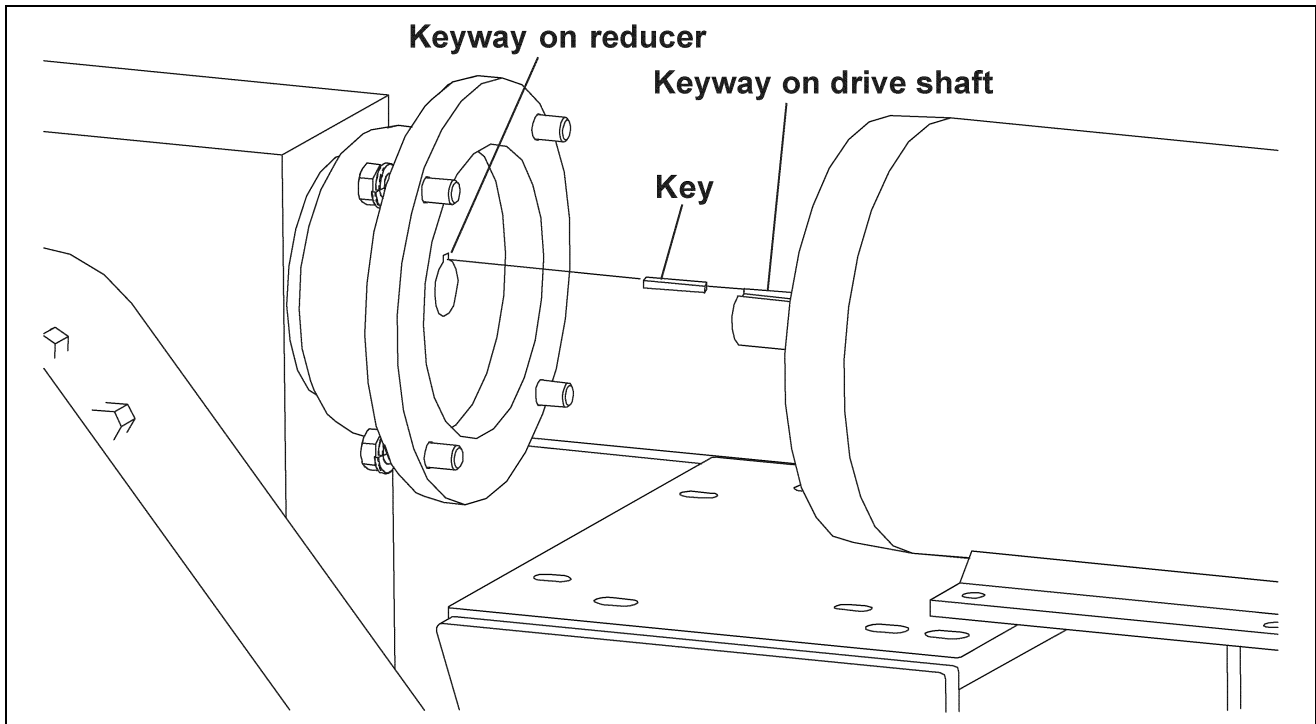

Figure 50
C. Line up keyway on shaft with keyway on reducer and insert shaft into motor. (See Figure 50)